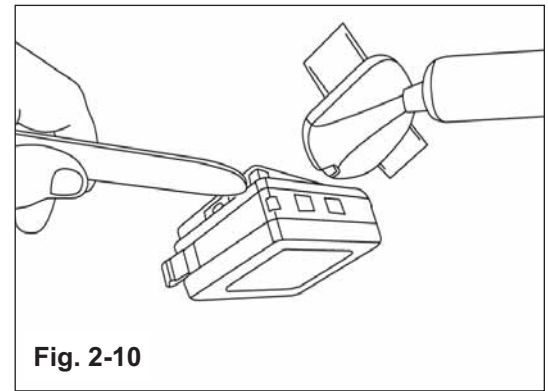

Fig. 2-10
- f) Insert fiberstick at corner of rain-sensor and gently twist and pry downward to remove. (Fig. 2-10)